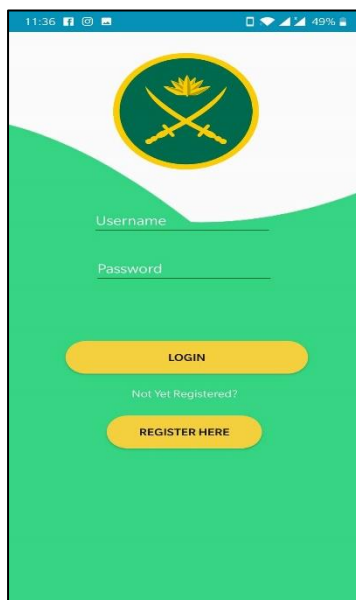

Figure 2.5 Android Login
- The user can login (Figure 2.5) using the android application. The username and password (same as that of the web based management system) will be provided by the system admin.